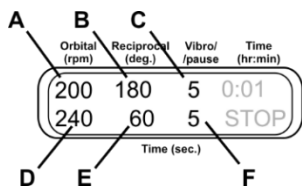
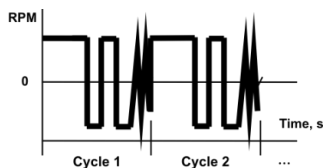

Figure 7.
Figure 8.
6.9.2 **Orbital + Reciprocal + Vibro motion.** Set the speed (fig. 7/A, 20–250 rpm) and time (fig. 7/D, 1–250 s) of Orbital motion. Set the amplitude (fig. 7/B, 0–360°) and time (fig. 7/E, 1–250 s) for Reciprocal motion. It is performed at the same speed as the Orbital motion (fig. 8). Set the amplitude (fig. 7/C, 0–5°) and time (fig. 7/F, 1–5 s) for Vibro motion.